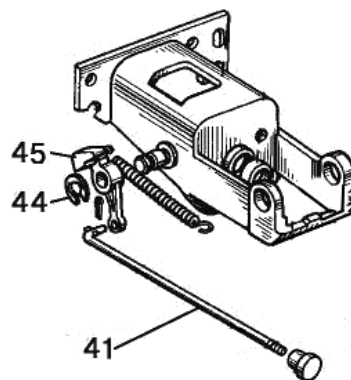

Figure 7.12
m) unpin and unscrew by wrench $S = 27$ mm nuts (38) on both sides of arm (1), and the pull out screws (40);
n) remove pipe (13), made as one piece with yoke (12) and sector 35;
o) unpin and disconnect tie-rod (41), from clamp 45 (Figure 7.12);